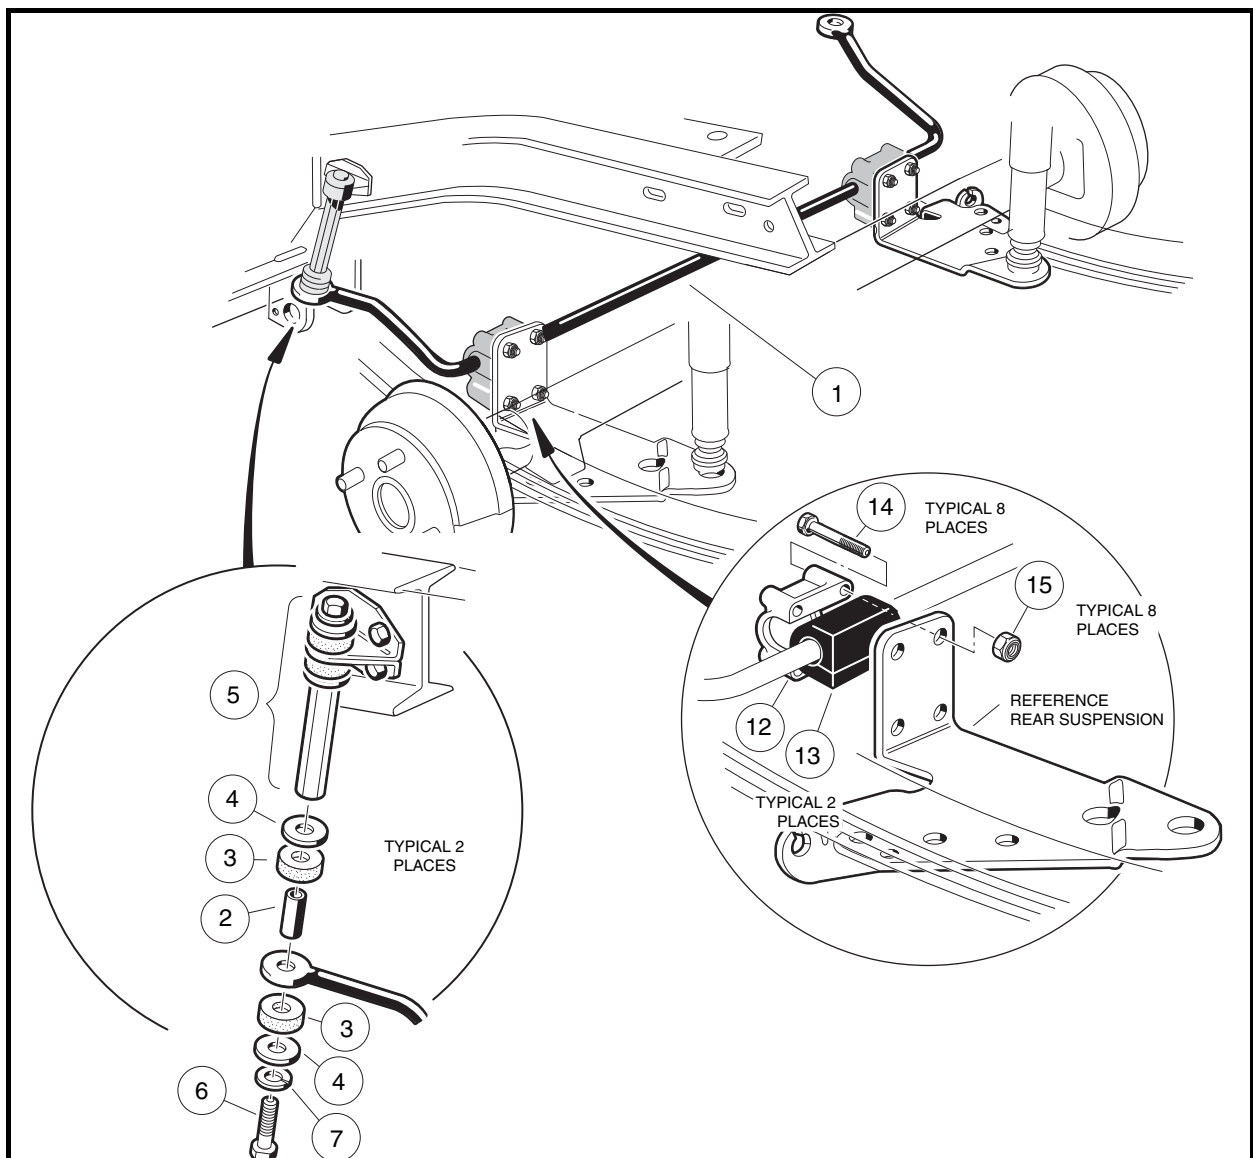

Figure 9-6 Stabilizer Bar
2. Remove bolt (6), lock washer (7), flat washers (4), compression mounts (3), and spacer (2) from left and right stabilizer bar links (5). Do not remove the stabilizer bar links from frame (**Figure 9-6, Page 9-7**).
1. Position stabilizer bar at the transaxle mounting brackets. Install a bushing (13) onto bar, making sure the bushing is located in the center of the four mounting holes in the bracket **(Figure 9-6, Page 9-7)**.
2. Place the bushing support (12) onto the bushing. Install four hex-head bolts (14) through the bushing support and transaxle mounting bracket.
3. Install four lock nuts (15) and tighten to 75 in-lb (8.4 N·m).
5. Place lock washer (7), flat washer (4), spacer (2), and compression mount (3) onto bolt (6). Install bolt through mounting hole in stabilizer bar and place another compression mount (3) and flat washer (4) onto bolt **(Figure 9-6, Page 9-7)**.
6. Install the bolt (6) with hardware into the stabilizer bar link (5) and finger-tighten.
8. Tighten bolts (6) in the stabilizer bar links (5) to 17 ft-lb (23 N·m).